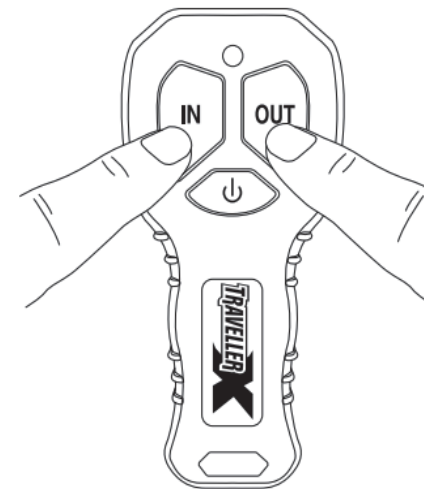

Fig 15
Step 4: Press the IN and OUT buttons of the wireless sender at the same time (see Fig 15), the indicator light start to blink. Keep holding the buttons until the indicator stops blinking. Release both fingers, the wireless remote switch pairing is completed.